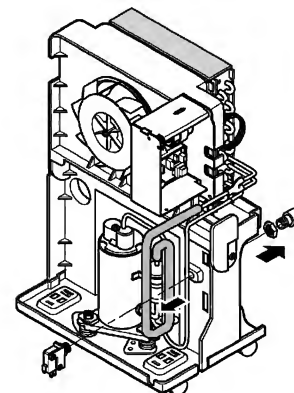

Figure 18
1. Turn the nut counterclockwise and pull out the micro switch from the drain pan. (See Figure 18)